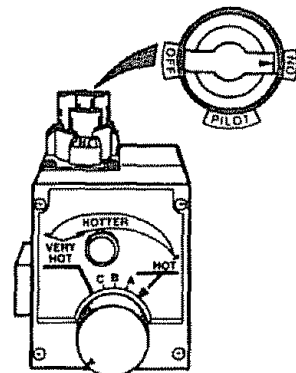

Figure 8
11. At arms length away, turn gas control knob counter-clockwise () to the full "ON" position. **WARNING Do not use gas control knob to regulate gas flow.** (Figure 8, page 15)